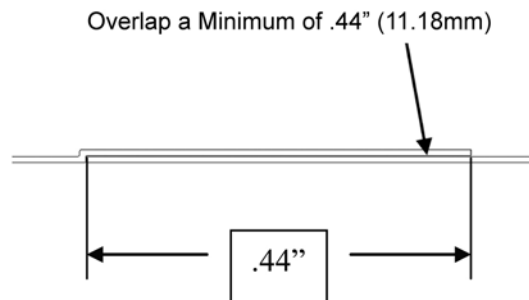

Figure 14 : Overlap of gasket tape
- After the gasket tape has been placed around the entire circumference, overlap the starting end of the tape by a minimum of 0.44" (11.2 mm). See **Figure 14**.